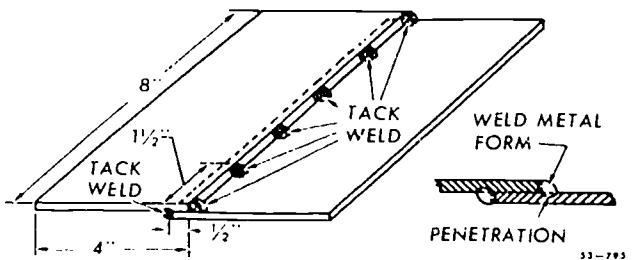

Figure 2-16. Lap joint setup.
**Welding Techniques.** When you join metal thicknesses of  $\frac{1}{8}$  inch or less, overlap the sheets from four to six times the metal thickness. Tack weld the joint at intervals of approximately  $1\frac{1}{2}$  inches, as shown in figure 2-16. Before welding, preheat the edges of the sheet by directing the flame above and below the joint edges. This raises the temperature of the metal to a point that produces fusion into the root of the joint.
Hold the torch approximately  $60^\circ$  from horizontal to direct most of the heat upon the bottom sheet, and point the flame in the direction of travel. When the edges are heated to the molten state, the center of the molten pool should be in line with the unmelted upper edge of the joint. This procedure permits a greater amount of the base metal to be melted into the molten pool, thus requiring less filler rod and assuring adequate fusion into the upper sheet. To prevent possible undercutting at the upper edge of the joint and overlapping on the lower plate, you should add the filler rod to the upper edge of the molten pool. You can determine the speed of travel by the size of the molten pool at the joint edges. Figure 2-16 shows dimensions, weld metal form, and penetration. You can use the following weld characteristics to determine incorrect techniques in making lap welds: